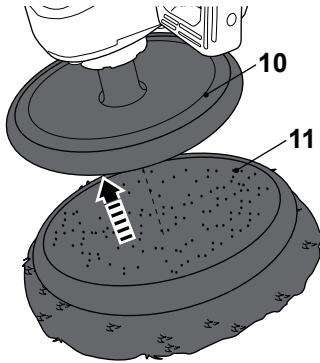
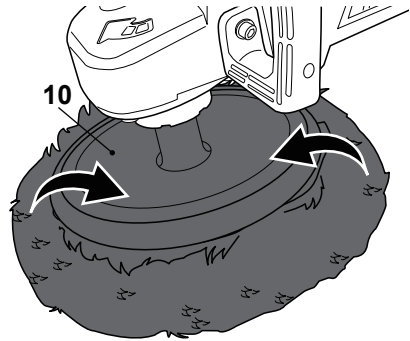

Fig. 5
Fig. 6
- > Place the polishing bonnet (11) onto the backing disc (10) concentrically (Fig. 5).
- > Press the polishing bonnet (11) slightly against the backing disc (10) to engage more hooks and loops in order to ensure a secure bond.
- > Fold up the outer rim polishing bonnet (11) around the the backing disc (10). Make sure the entire backing disc (10) is wrapped in the outer rim of the polishing bonnet (11) (Fig. 6).